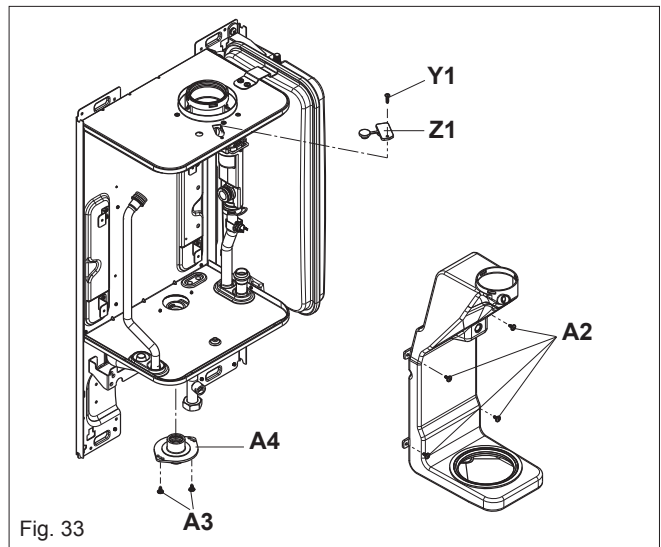
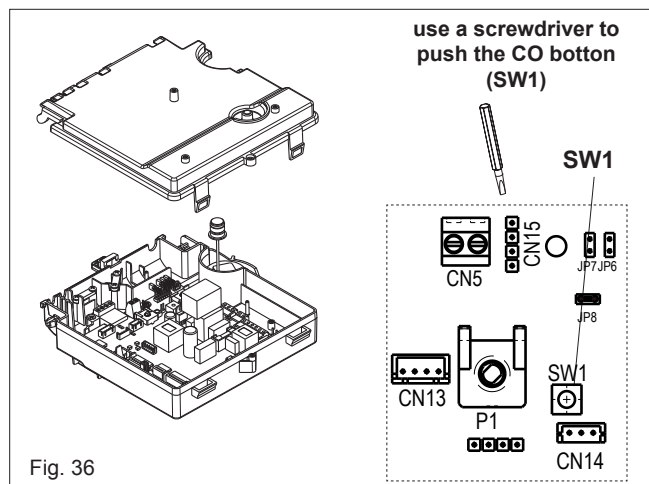

Fig. 33
Fig. 36
6.20 FLUE COLLECTOR REMOVAL (fig. 33)
Isolate the appliance from the electrical supply and remove the appliance casing as described in 4.7.1. Restore the electrical supply to the boiler and switch the boiler to the OFF mode. Have access to the printed circuit board, locate and press the CO button (see fig. 36 pos. SW1). Press the button the number of times according the function requirement as par 7.3.1. Set the flue gas analyser to read CO₂, allow the burner to stabilise and insert the probe into the flue analysis test point (Y1-Z1 fig. 33). The appliance will operate in CO₂ mode for approximately 15 minutes.
- Insert the flue gas analyser probe into the flue gas test point (see fig. 33) and compare the values with those shown in section 2 (Nat. Gas) or section 9 (LPG). If different adjust the gas valve according to 7.3.1, 7.3.2, & 7.3.3.